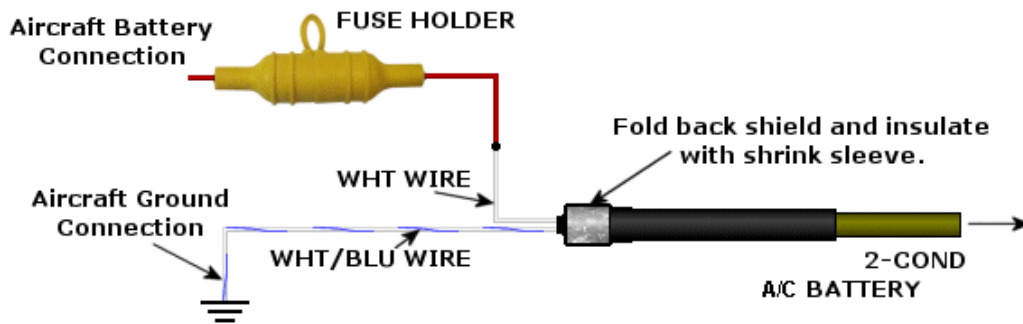

Figure B- 17: Aircraft Battery Final Wiring
- ❑ 010 Following the illustration (Figure B- 17) connect the AC BATTERY “AAV09B24” white (positive) wire to supplied fuse holder. Connect to the aircraft battery so that DC power is available at all times to the processor. Refer to Section 5.2 for the applicable power connection.
- ❑ 020 Following the illustration (Figure B- 17) connect the AC BATTERY “AAV09B24” white/blue (negative) wire to aircraft ground.